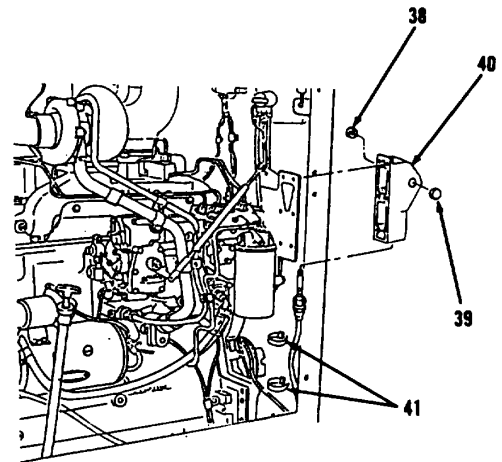

Figure 3-159.
34. Inspect bearings (38 and 39, Figure 3-159). Replace if cracked, broken or worn.
35. Using suitable driver and hammer, remove bearings (38 and 39), if necessary, from housing (40).
36. Remove housing (40) from vehicle.
37. Remove and discard two straps (41).